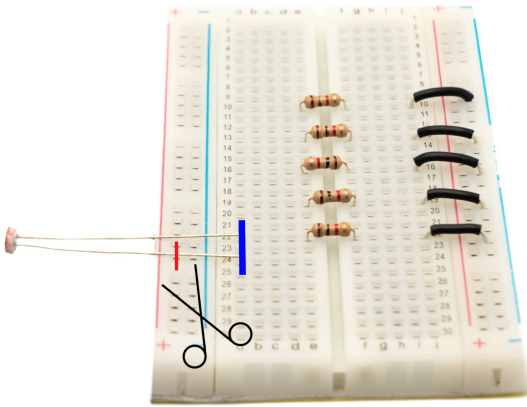
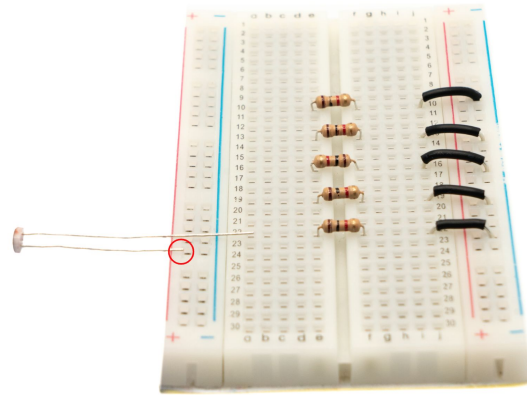

Figure 2.3
Figure 2.4
3. In order for the photoresistors to come out straight, we need to cut short one of the legs for each photoresistor. Follow **Fig 2.3** to align both legs to "a" column of the breadboard (blue line), and cut one of the legs at around the + power rail (red line). Your result should resemble **Fig 2.4** on the next page.